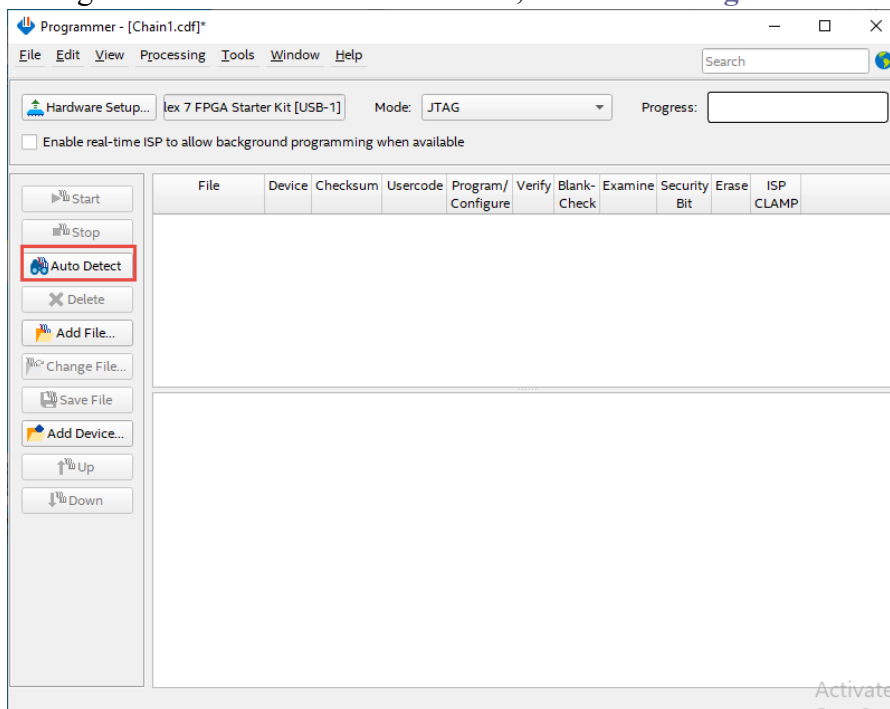

Figure 3-5 Detect FPGA device in JTAG mode
2. Open the Programmer and click “Auto Detect”, as circled in Figure 3-5